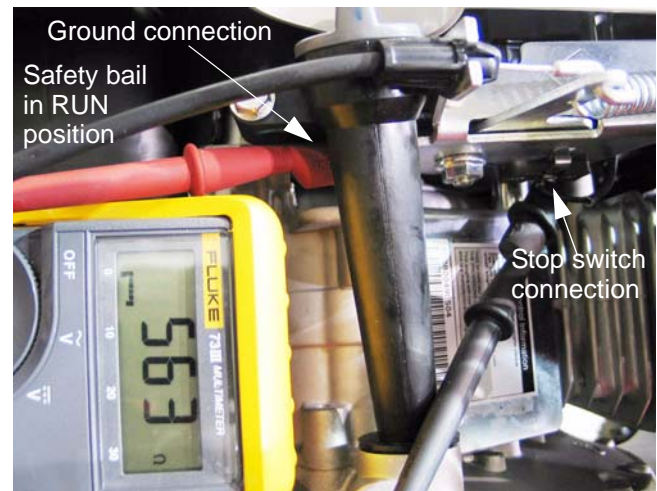

Figure 5.55
5.55. The reading should be high when the bail is pulled down, reflecting the resistance in the primary windings of the ignition module. See Figure 5.55.